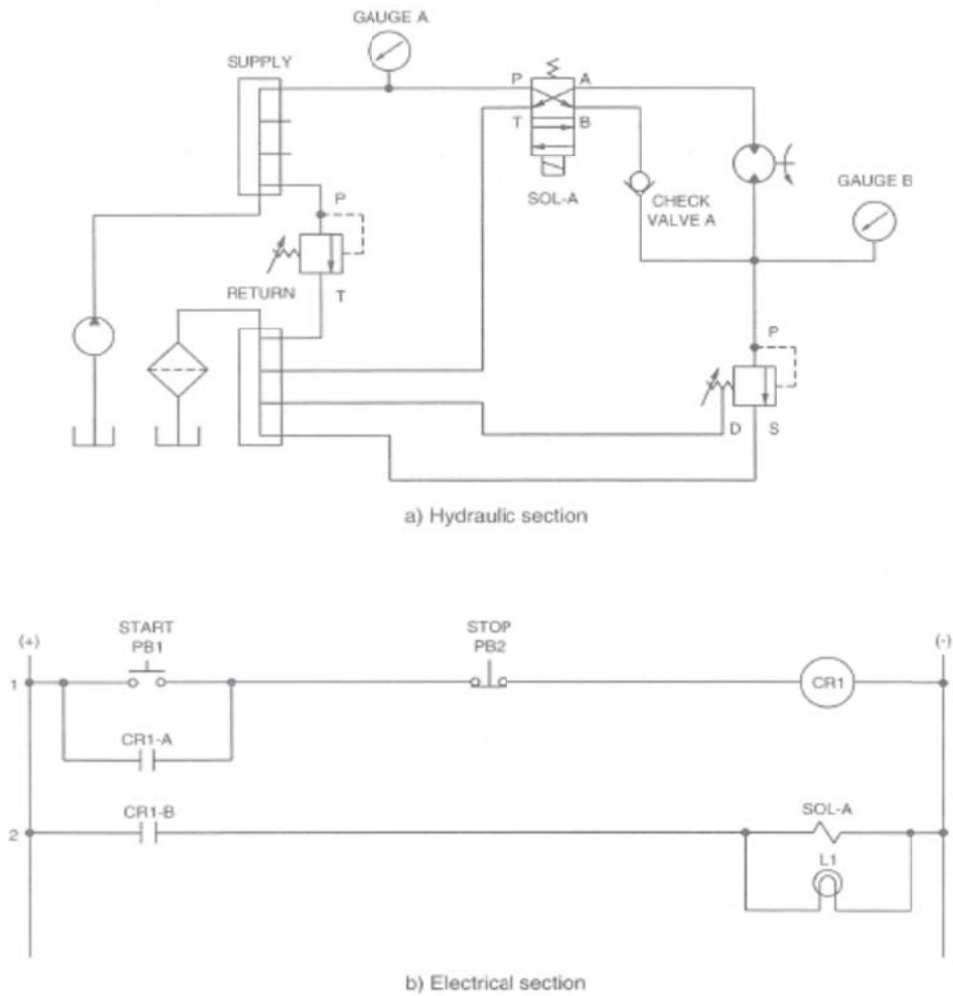

Figure 3. Braking of a Hydraulic motor by means of a sequence valve
Figure 3 shows the pressure-compensated flow control valve supplied with your Hydraulics Trainer, along with its symbol. This valve consists of a needle valve, a compensator spool acting on a bias spring, and a bypass check valve. The needle valve is an adjustable orifice restricting the oil flow from the inlet to the outlet ports.
- Connect the system shown in Figure 3.
Q1: What is the function of the sequence valve in the motor braking system of Figure 3?
Q2: Explain the operation of the sequence valve in the motor braking system of Figure 3?